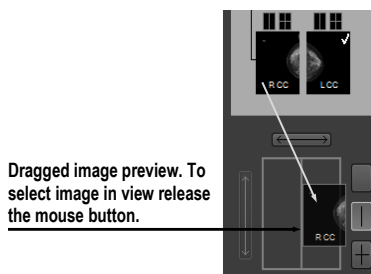

Figure 457 – Dragging an image from the study preview to the layout area
- Or, use the drag-and-drop technique to drag the image to the screen preview in the screen layout area in the image navigator (see Figure 457). The image is displayed in the appropriate view in the mammography workspace on the left or right monitor.